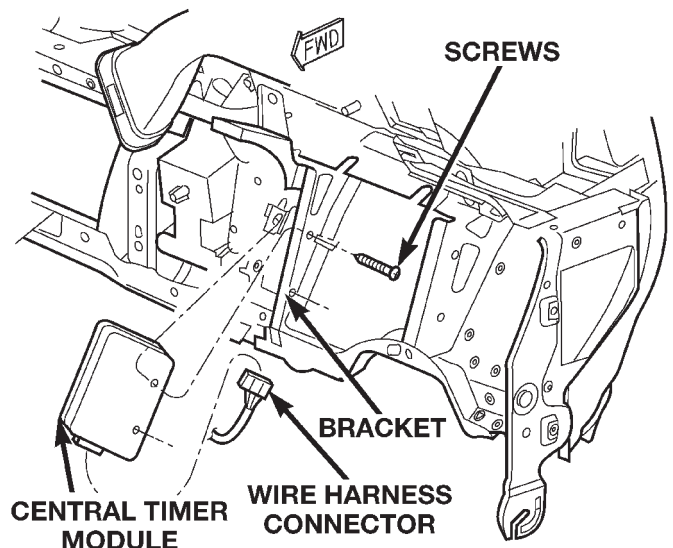
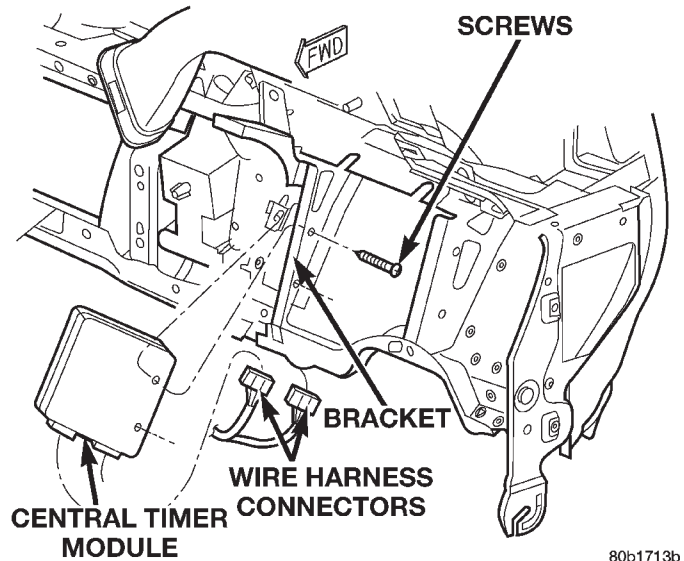

Fig. 14 Central Timer Module (Base) Remove/Install
Fig. 15 Central Timer Module (High-Line) Remove/Install
(1) Disconnect and isolate the battery negative cable.
(2) Remove the steering column opening cover and knee blocker from the instrument panel. See Steering Column Opening Cover and Knee Blocker in the Removal and Installation section of this group for the procedures.
(3) Remove the two screws that secure the Central Timer Module (CTM) to the bracket on the inboard side of the instrument panel steering column opening (Fig. 14) or (Fig. 15).